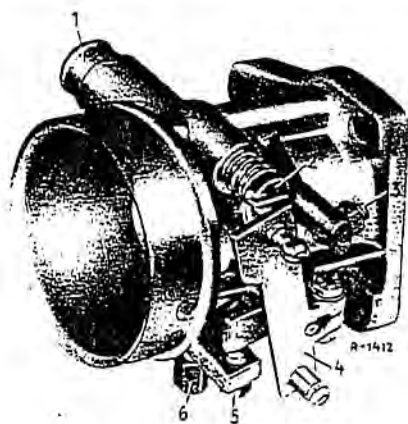

Fig. 07-10/18
The venturi control unit, which is attached to the intake manifold, contains the throttle valve controlling the combustion air for the engine (Fig. 07-10/18).
Since the throttle valve must be completely closed in the idle position, the engine receives the necessary combustion air through the idle air canal in the venturi control unit. For adjusting the idle speed the cross section of the idle air canal can be changed by means of the idle air throttle (2). The threaded union (6) receives the vacuum line to the distributor. (Fig. 07-10/18).